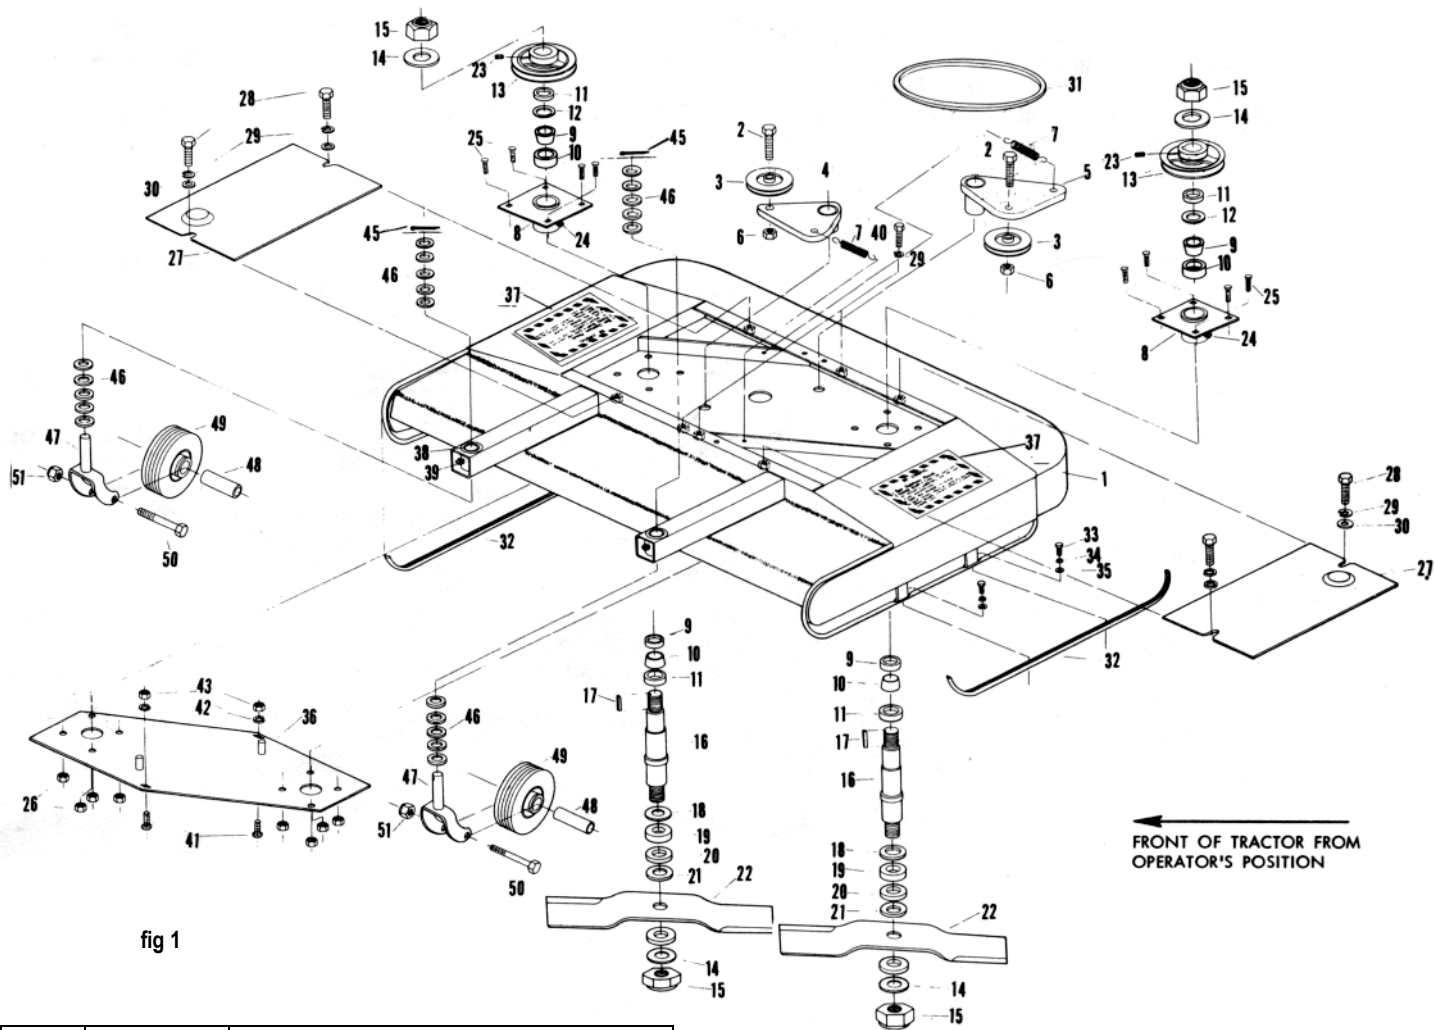

fig 1
2. Remove the belt covers, fig 1, Items 27.
7. Bolt the drive to the deck. The 2 carriage bolts are inserted from under the deck, fig 1, Items 41, 42 & 43. Be sure that the heads seat properly in the deck. The 3 hex bolts fasten from the top, fig 1, Items 29 & 40. Start all bolts and nuts before tightening.
1. Grease the spindle bearing weldment housing through the grease fitting, with general purpose grease fig 1, Item 8 & 24. Add grease until it comes out the vent hole; opposite side of the grease fitting. Re-grease every 8 HOURS of operation or more often when operating in severe dust or sand.
2. Grease the bronze bearing and caster wheels through the grease fittings with general purpose grease fig 1, Items 38 & 49. Add grease until it comes out the bearings. Re-grease periodically, especially when operating in severe dust or sand.